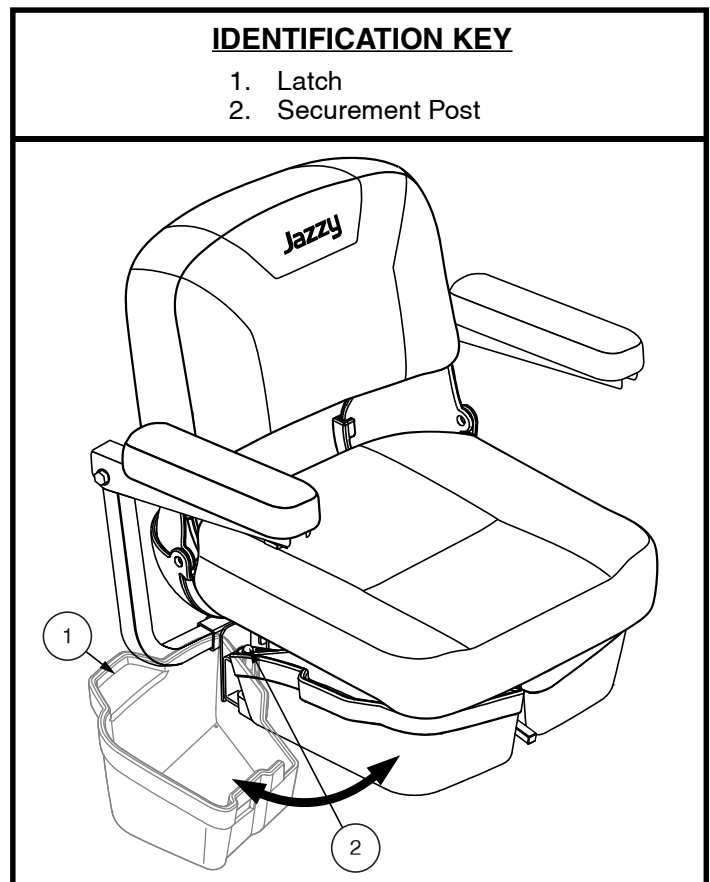

Figure 28. Under-seat Storage
1. Lift up slightly on the latch on the side of the under-seat storage bin (see figure 28) and swing the under-seat storage bin out and away from the Travel Scooter.
1. Lift up slightly on the latch on the side of the under-seat storage bin (see figure 28) and swing the under-seat storage bin out and away from the travel scooter until it is fully open.
2. If equipped, remove under-seat storage. See **Figure 28**.
7. If equipped, install under-seat storage. See **figure 28**.